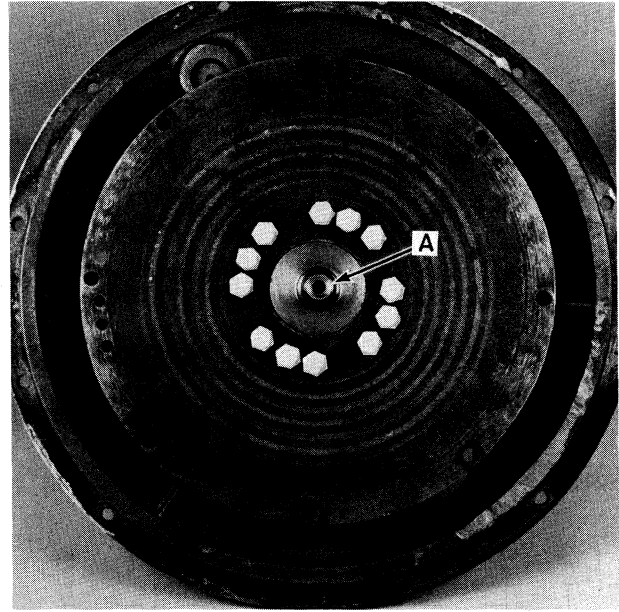

FIGURE 5A-30
13. Coat pivot pin, A, Figure 5A-29, with antiseize compound. Install pivot pin, A, into housing, B, until a depth of 4 $\frac{7}{8}$ " (124 mm) is achieved. Tighten setscrew, C, and jam nut, D.